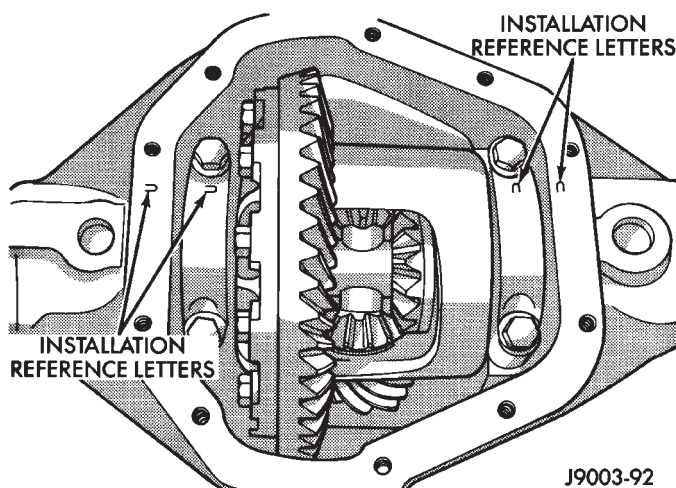

Fig. 22 Differential Bearing Cap Reference Letters
(8) Install the bearing caps at their original locations (Fig. 22). Tighten the bearing cap bolts to 109 N·m (80 ft. lbs.) torque.
(9) Install axle shafts.